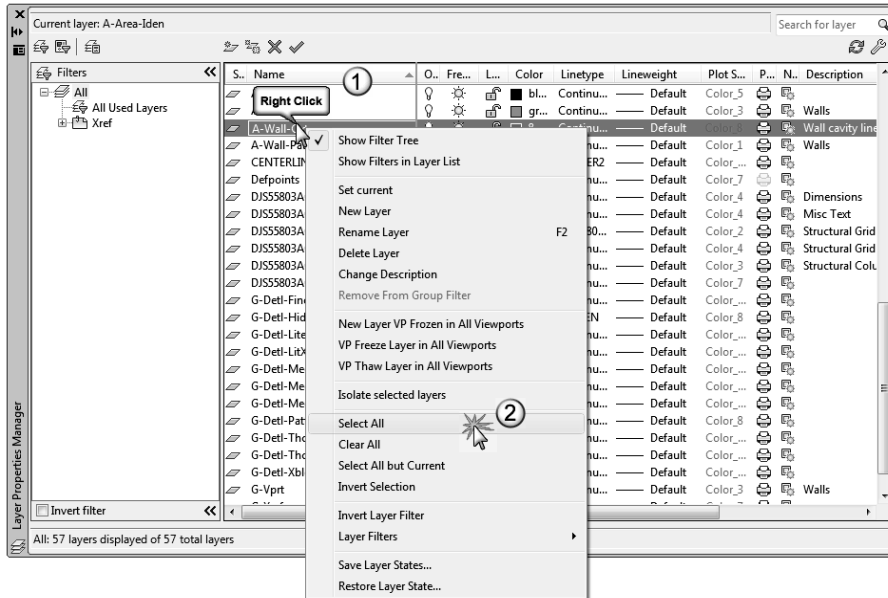
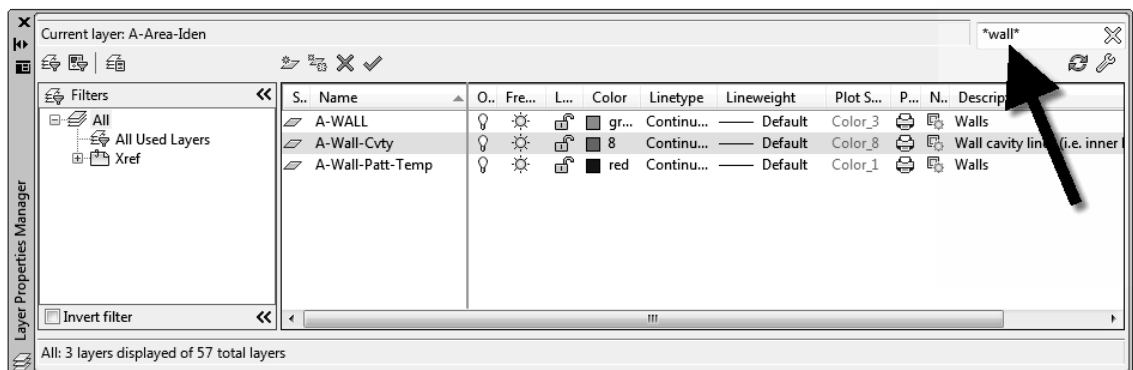

FIGURE 4-5.5 Layer Manager; right-click and pick “select all”
FIGURE 4-5.6 Layer Manager; search for “wall” layers
- Another method is to open the *Layer Manager* and right-click on any *Layer* name and click “**Select All**” from the pop-up menu. Then you can click any *Layer* icon that is “off” and all *Layers* will be turned “on” (see Figure 4-5.5).
Take a moment and notice the other tools available in the right-click pop-up menu shown in Figure 4-5.5.
In the text box in the upper right of the *Layer Manager* (that has the light gray words “Search for layer”; see Figure 4-5.5) you can type something like ***grid*** and see only the *Layers* that have the letter/word “grid” in them (e.g., A-Grid, A-Grid-Iden, DJSAGD01 | S-Grid, etc). See Figure 4-5.6 below for an example where only the *Layers* with the word “wall” are listed.